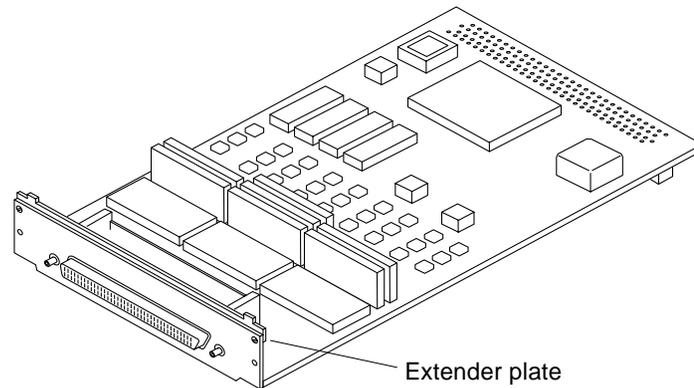

Figure 1-1 SBUS Wide Intelligent Ultra SCSI Differential (UDWIS/S)
- SBus Wide Intelligent Ultra SCSI Differential (UDWIS/S) host adapter card (Figure 1-1)
Ensure that the mounting plate on your card hooks upward into the back panel of the processor board. For some processor boards, you may have to remove the extender plate (Figure 1-1) from the mounting plate to install the card correctly.